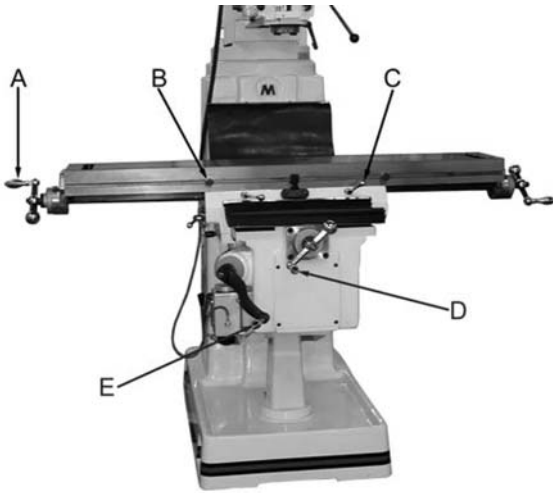

Figure 13: Table movement
Refer to Figure 13.
- A. **Longitudinal Movement** (A, Figure 13) - handles located on opposite ends of table; control the X-axis.
- B. **Stops** (B) - located on front of table; limit how far table travels in either direction.
- C. **Table Locks** (C) - located on front of saddle; used for locking table in position.
- D. **Cross Feed Movement** (D) - located on front of knee; controls the Y-axis.
- E. **Knee Handle** (E) - located on corner of knee; controls the Z-axis.